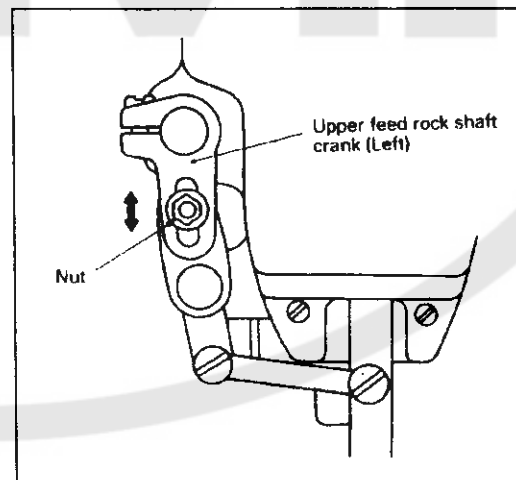

Fig.32
4) Feed pitch adjustment of walking foot (Fig.32):